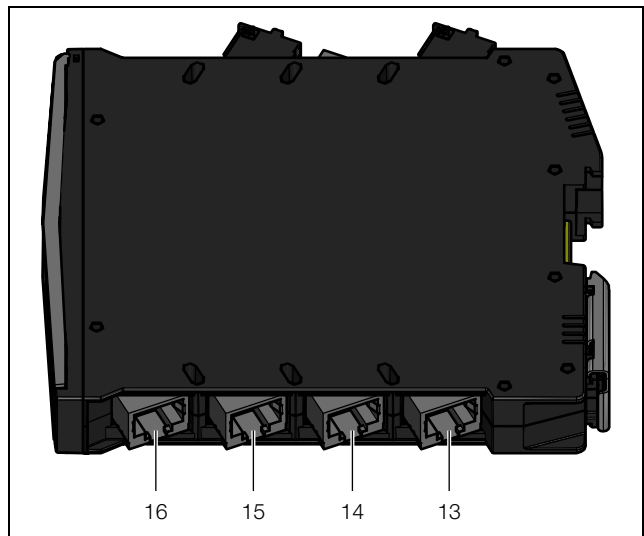

Fig. 6: Bottom connections on the IoT interface
A 24 V  $\overline{\text{---}}$  connection is available for the power supply. The bus cables then supply power to the connected CAN bus sensors. Alternatively, the IoT interface can also be supplied with the required operating voltage from a cooling unit connected at connection X6 (fig. 6, item 14).
Rather than via the direct connection and an external power supply unit, you can also supply the IoT interface with the required operating voltage from a Blue e+ cooling unit connected at connection X6 (fig. 6, item 14).
If the electrical connection is **not** made to the direct connection, no second cooling unit can be attached to connection X5 (fig. 6, item 13) and no components (such as CMC III sensors or the Smart Monitoring System) can be connected to the CAN bus connections.
A wide range of sensors, actuators and systems for access monitoring (see section 15 "Accessories") can be connected to the two CAN bus interfaces (fig. 6, item 15 and 16).